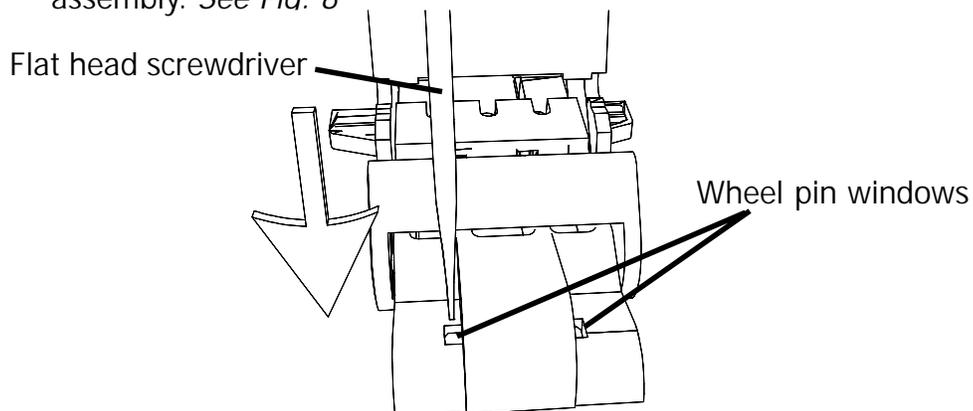

Fig. 8 - Removing the wheel pin with a flat head screwdriver.
- 1) With a small flat head screwdriver, push the wheel pin out of the pinch wheel assembly. *See Fig. 8*